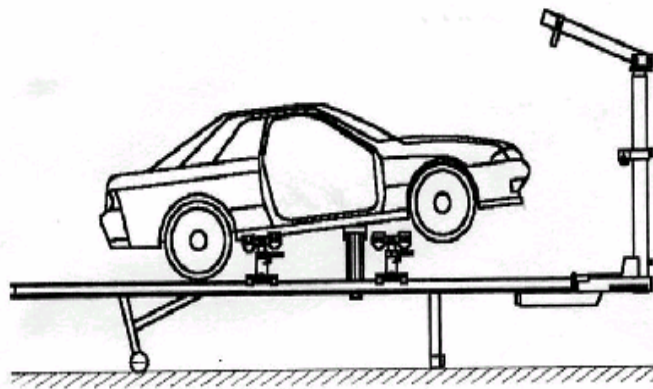

Fig 11
- c. Move the scissors lift to one end of the vehicle, and lift it up. Use a couple of clamps to clamp the skirt edge of the vehicle. Then move the lift frame to the other end of vehicle. Use another couple of clamps to clamp the vehicle's respective skirt edge and finish the clamping as shown in Fig 11.